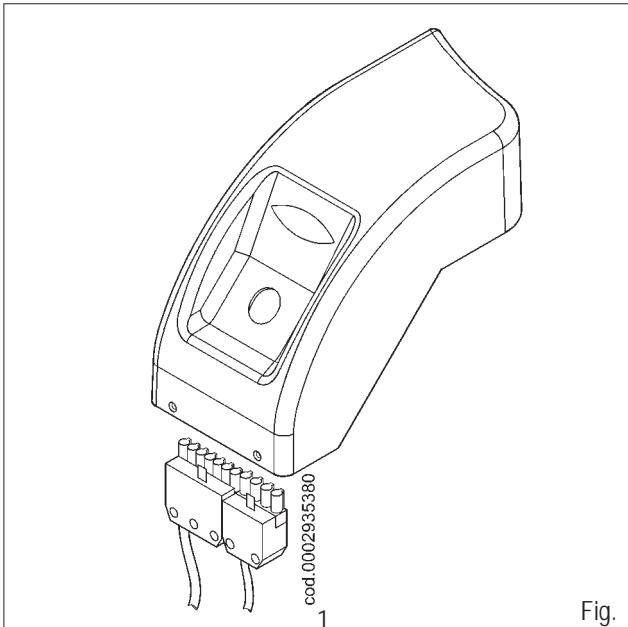

Fig. 1
- 1) Following the instructions detailed in the "Maintenance" paragraph, extract the mixer assembly and remove the screws (1) which connect the unit's forward movement rod (2) to the gas delivery pipe (3) passing through the hole (4) made in the bend coupling (figure 1).
- 2) Turn the bend coupling through 180° in such a way as to match the gas delivery pipe to the hole (4a) made in a diametrically opposed position to the coupling itself. Reconnect the unit's forward movement rod (2) and the gas delivery pipe (3) with the screws (1) in figure 1.
- 1) Insert the 7 and 4 pole plugs for version "P", in the appropriate sockets located below the electrical panel base as shown in figure 1.